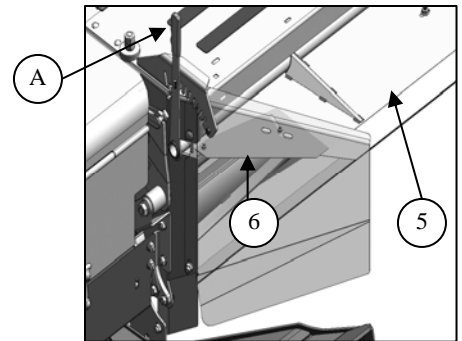

Figure 2
- 5) **Rear Deflector.** See Figure 2 Ref# 5
- 6) **Baffle Plate.** See Figure 2 Ref# 6